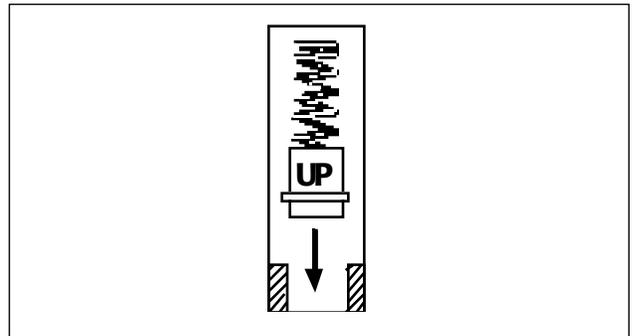

FIG. 16
6. Reassemble in reverse order the springs, collar (note the proper direction from Fig. 16), cover and retaining ring. Rotate retaining ring at least 90° from slot in the housing.